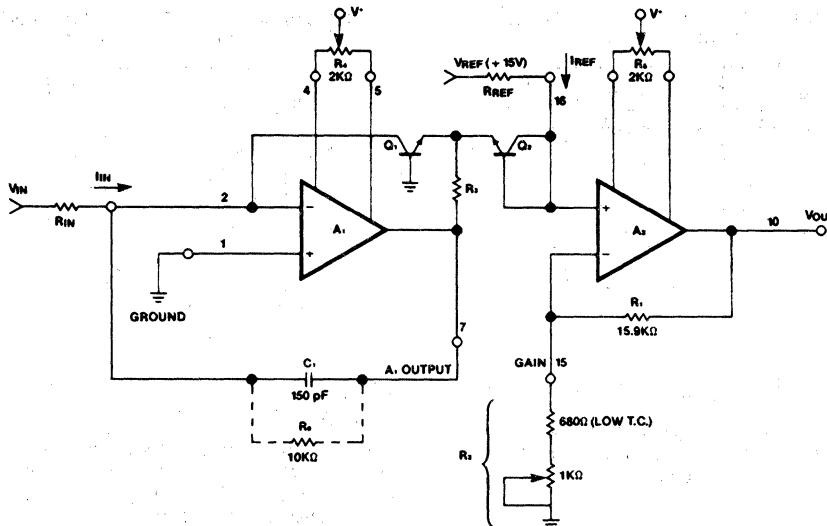
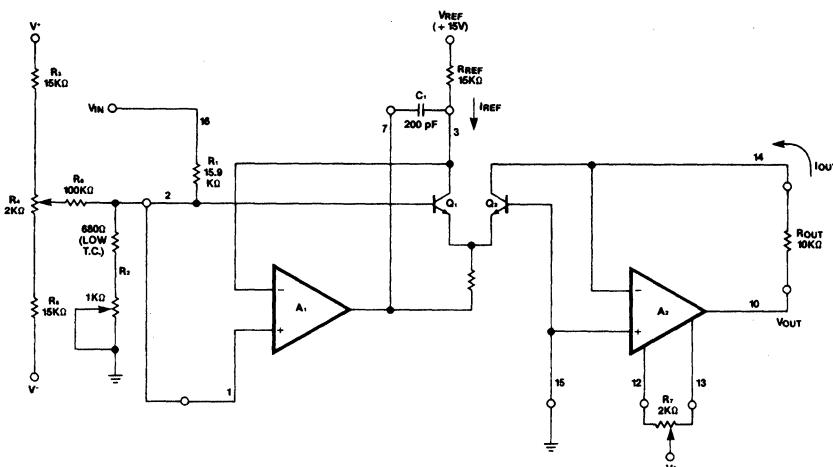
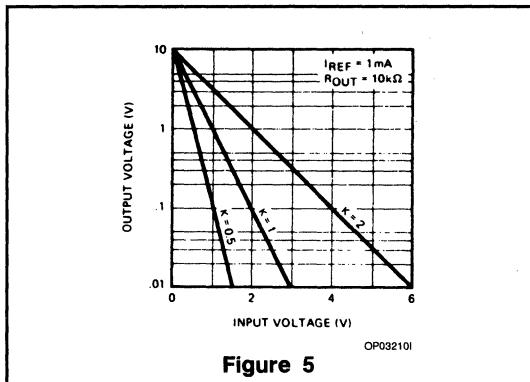
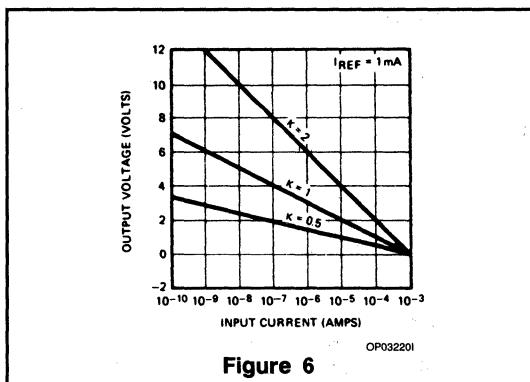

Figure 3: ICL8048 Offset and Scale Factor Adjustment
Figure 4: ICL8049 Offset and Scale Factor Adjustment
Figure 5
Figure 6
Referring to Figure 3, it is clear that the potential at the collector of Q_2 is equal to the ΔV_{BE} between Q_1 and Q_2 . The output voltage is ΔV_{BE} multiplied by the gain of A_2 :
A log amp, unlike an op-amp, cannot be offset adjusted by simply grounding the input. This is because the log of zero approaches minus infinity; reducing the input current to zero starves Q_1 of collector current and opens the feedback loop around A_1 . Instead, it is necessary to zero the offset voltage of A_1 and A_2 separately, and then to adjust the scale factor. Referring to Figure 3, this is done as follows:
The ICL8049 relies on the same logarithmic properties of the transistor as the ICL8048. The input voltage forces a specific ΔV_{BE} between Q₁ and Q₂ (Figure 4). This V_{BE} difference is converted into a difference of collector currents by the transistor pair. The equation governing the behavior of the transistor pair is derived from (2) on the previous page and is as follows:
As with the log amplifier, the antilog amplifier requires three adjustments. The first step is to null out the offset voltage of A₂. This is accomplished by reverse biasing the base-emitter of Q₂. A₂ then operates as a unity gain buffer with a grounded input. The second step forces $V_{IN} = 0$; the output is adjusted for $V_{OUT} = 10V$. This step essentially "anchors" one point on the transfer function. The third step applies a specific input and adjusts the output to the correct voltage. This sets the scale factor. Referring to Figure 4, the exact procedure for 1 decade/volt is as follows:
By adjusting R_2 (Figure 3 and Figure 4) the scale factor "K" in equation 9 and 10 can be varied. The effect of changing K is shown graphically in Figure 5 for the log amp, and Figure 6 for the antilog amp. The nominal value of R_2 required to give a specific value of K can be determined from equation 11. It should be remembered that R_1 has a $\pm 20\%$ tolerance in absolute value, so that allowance shall be made for adjusting the nominal value of R_2 by $\pm 20\%$.
Although the op-amps in both the ICL8048 and the ICL8049 are compensated for unity gain, some additional frequency compensation is required. This is because the log transistors in the feedback loop add to the loop gain. In the 8048, 150 pF should be connected between Pins 2 and 7 (Figure 3). In the 8049, 200 pF between Pins 3 and 7 is recommended (Figure 4).